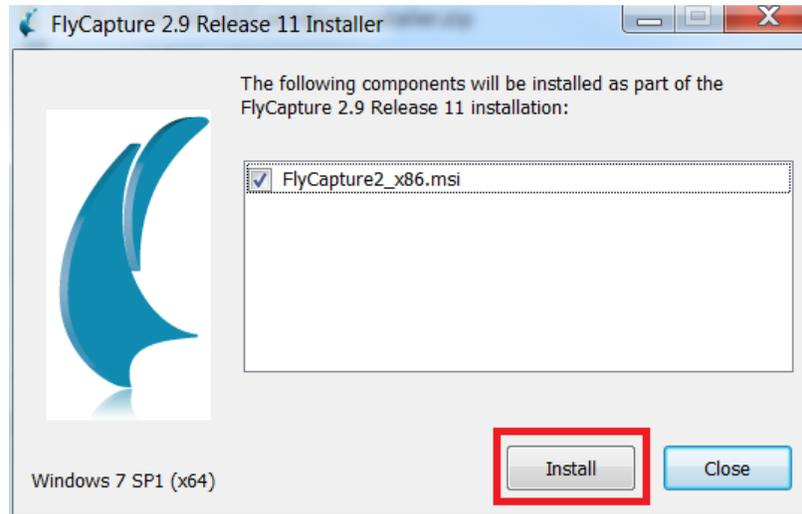

Figure 2-2. Setting Up the FlyCapture2 Install
2. Run the downloaded installation file and click the "Install" button, as shown in Figure 2-2.